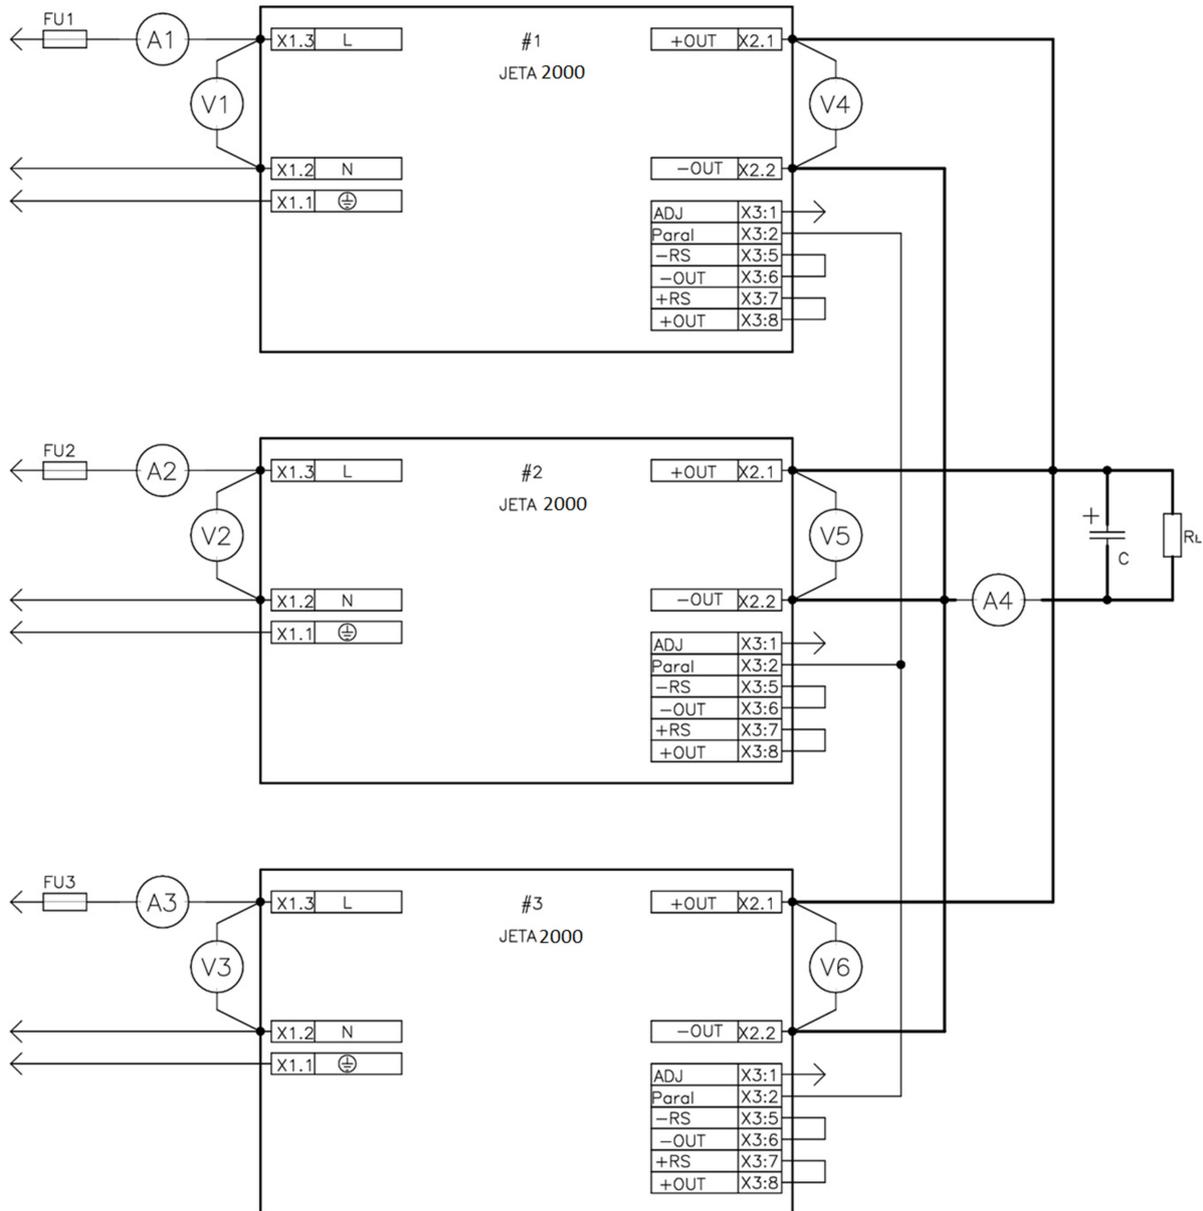

Fig. 6: increasing output power with parallel work
- In case when only output power increase is needed, without backup system, there is a possibility to use connection scheme shown in figure 6.
- When using connection scheme from figure 6 it's important to check thoroughly all function modes, which must be provided in equipment, for stable work. In terms of stable work - connection scheme with dividing diodes is more appropriate.